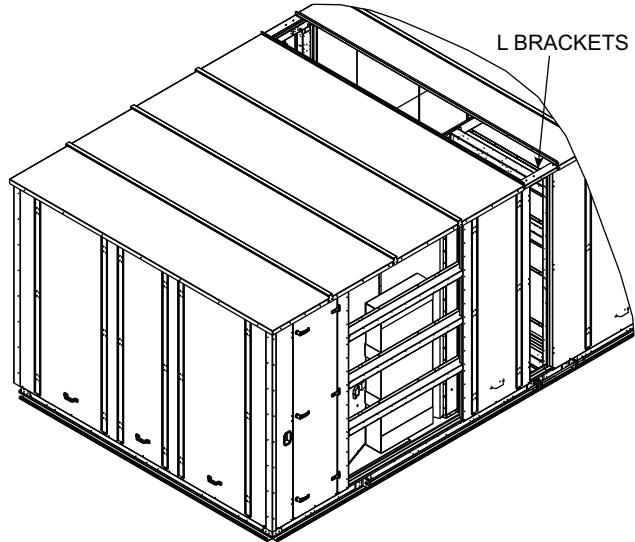

Fig. 58 — L Bracket Installation
13. Install L brackets, top cover and top cap joining main unit section and return section top cover assemblies. See Fig. 58 and 59.